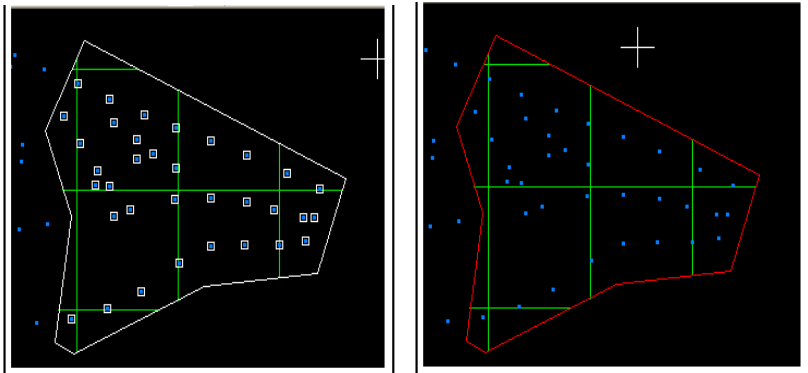

Figure 7-11. Define Boundary and Apply
2. Click **Plane ▶ Define plane boundary ▶ By selection polygon**. 3D office generates a new boundary for the existing plane surface based on the selection polygon (Figure 7-11).